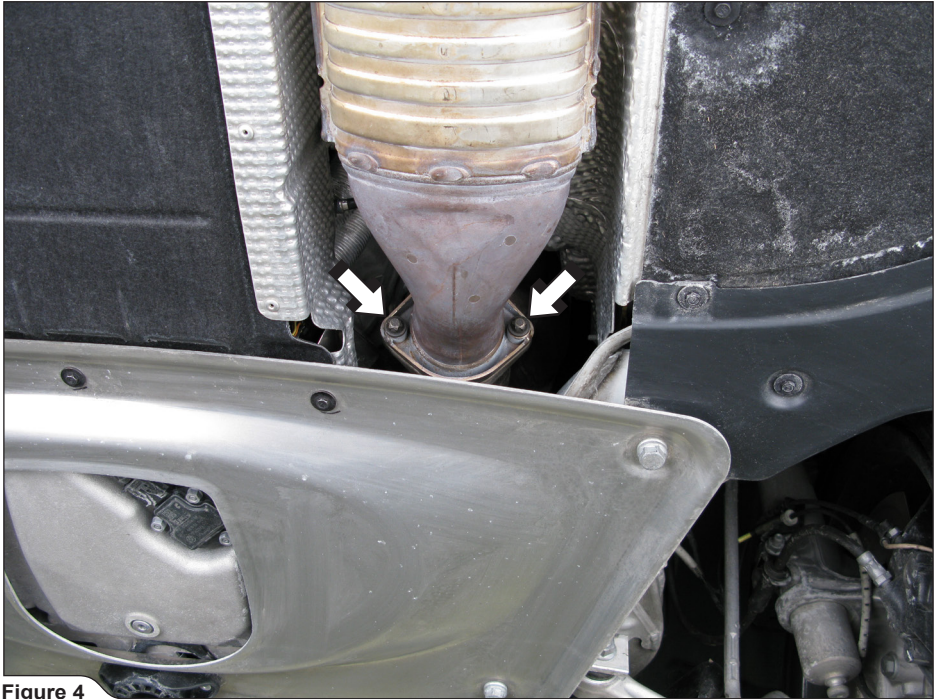

Figure 4
4. **For Evolution:** unscrew the marked bolts and nuts on both sides of the vehicle (**Figure 4**).